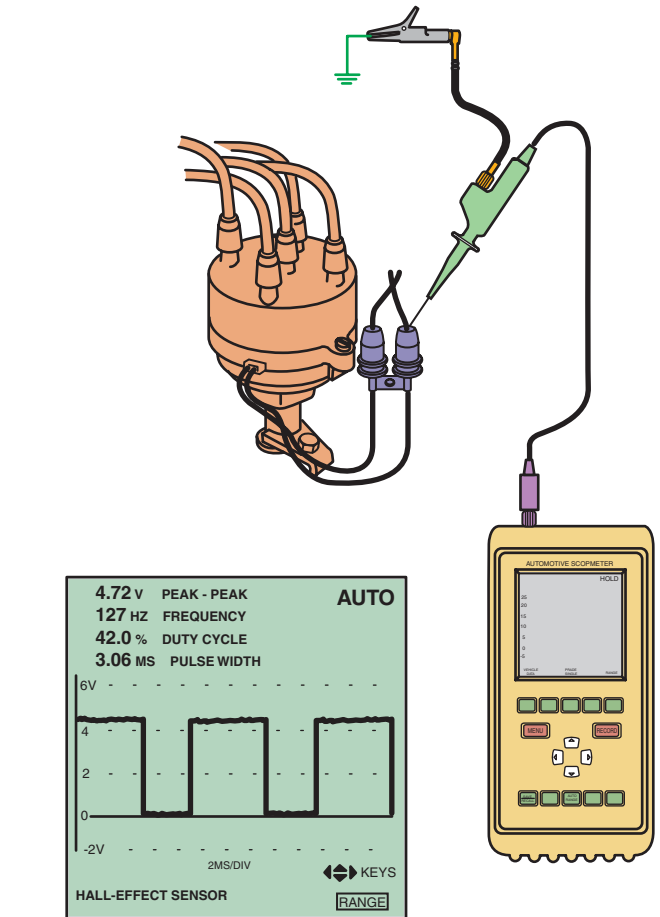

FIGURE 29-26 The connection required to test a Hall-effect sensor. A typical waveform from a Hall-effect sensor.
- Waveform, using an oscilloscope ● **SEE FIGURE 29-26.**